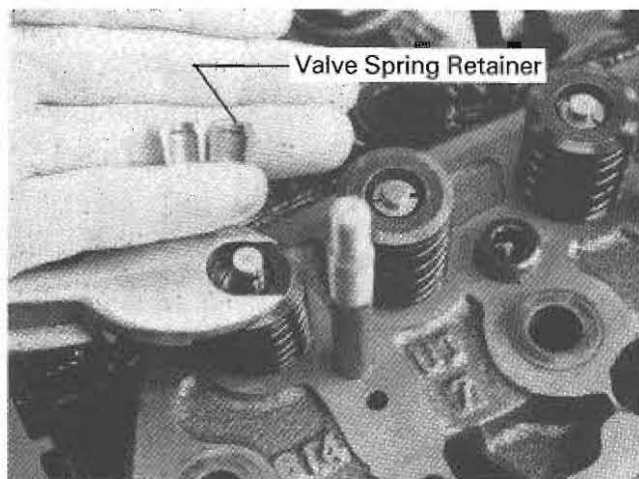

Fig. 3-24 Valve Removal
2. With a valve spring compressor, remove the valve spring assembly and valves from the head (Fig. 3-24).